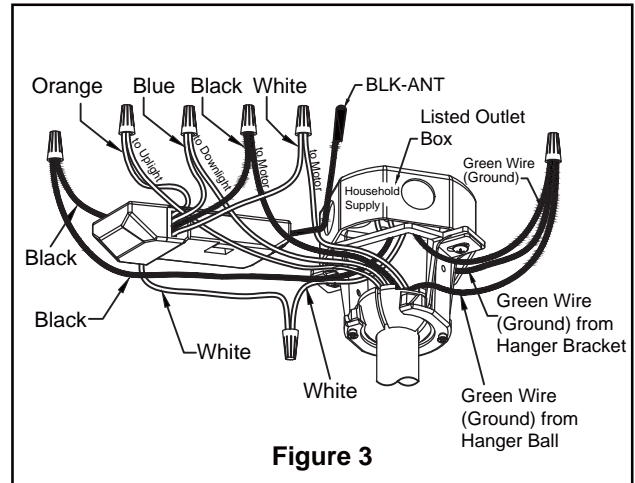

Figure 3
2. Connect green wires from hanger bracket and hanger ball to bare (ground) wire using wire connector. Connect black wire from receiver unit marked "AC IN L" to black supply wire using wire connector. Connect white wire from receiver unit marked "AC IN N" to white supply wire using wire connector. Connect white wire from receiver unit marked "TO MOTOR N" to white wire from fan using wire connector supplied with receiver unit. Connect black wire from receiver unit marked "TO MOTOR L" to black wire from fan using wire connector supplied with receiver unit. Connect blue wire from receiver unit to the blue downlight wire using wire connector supplied with receiver unit. Connect orange wire from receiver unit to the orange upright wire using wire connector supplied with receiver unit. (Figure 3)